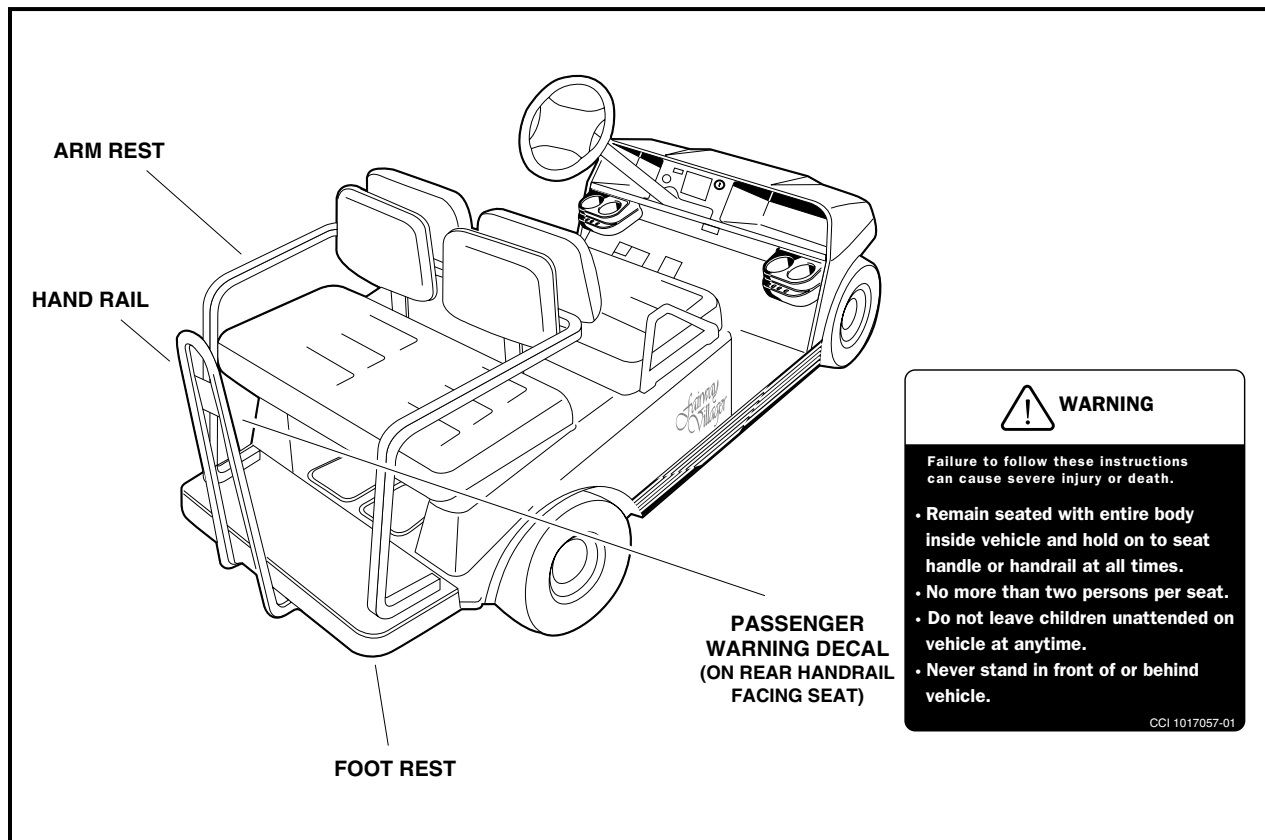

Figure 17 Fairway Villager
- **Passengers should hold on to seat handles or hand rails at all times (Figure 17, Page 34). Driver should keep both hands on the steering wheel while vehicle is moving.**